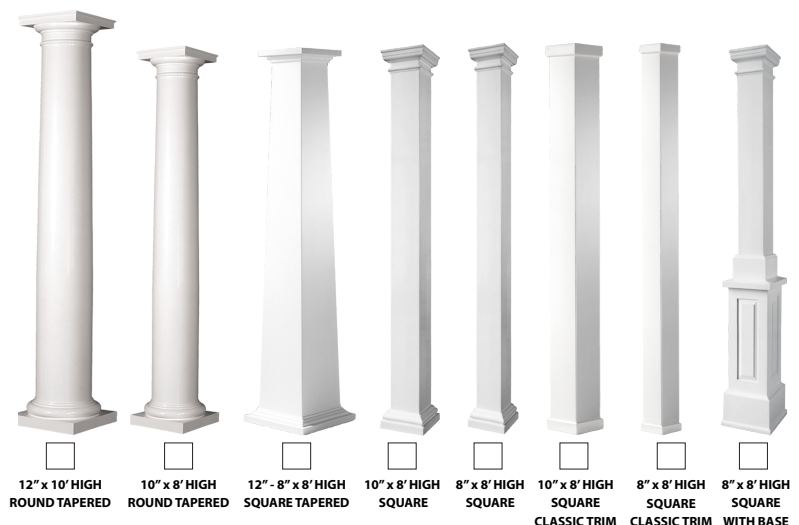

Figure 1.6 Fiberglass Column Selection
2. **Style** - See Figure 1.6 for column selection.